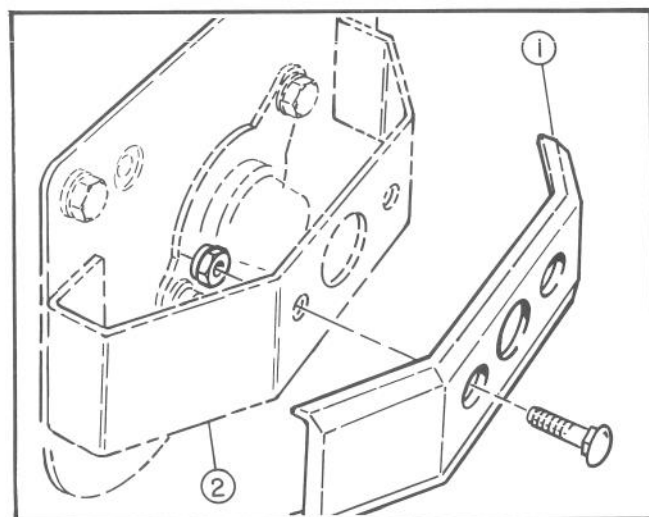

Figure 4
- E. Mount one weight to each cutting unit guard (Fig. 4) on the #1, #2, & #3 cutting units. Guards are located at the opposite end of each cutting unit drive housing. Use 1/2" carriage bolts provided with weights (Fig. 4).